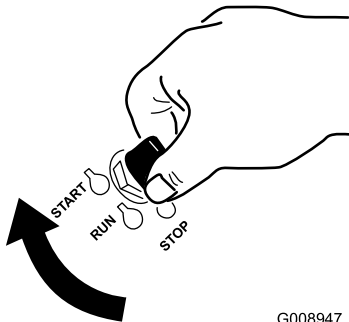

Figure 25
- Turn the ignition key to the START position (Figure 25).